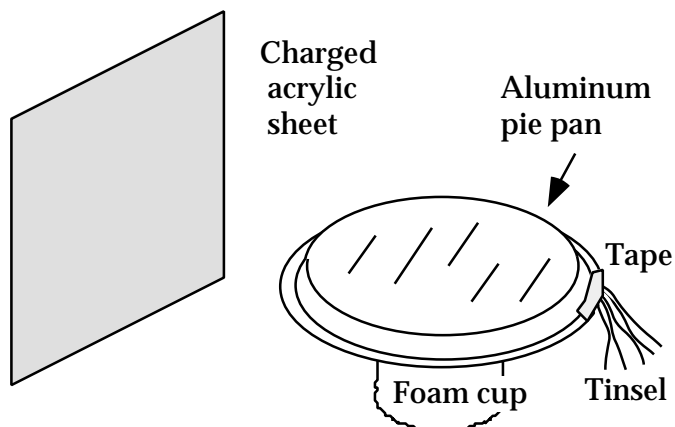

Figure 9.12
To test the idea of electrical pushing, set up the components of Figure 9.12. A metal pie plate is supported on a foam cup to insulate it electrically from the table. Individual pieces of tinsel are taped in contact with the metal pie plate.
4. On Figure 9.12, draw the concentrations of (+) and (-) charge.
5. The noun “polarization” is used to describe a condition in matter where there is a spatial separation of (+) and (-) charges. The verb “to polarize” is used to describe an action that causes polarization. Is there polarization in the pie plate in Figure 9.12? Does the excess (+) charge on the acrylic polarize the pie plate? Explain.